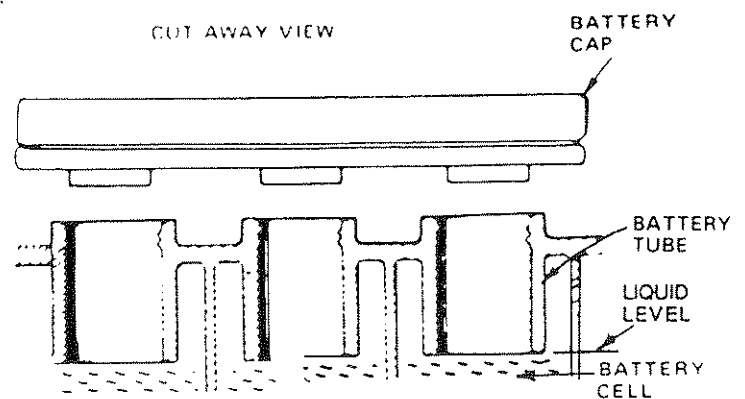

FIGURE 13
- a. Battery acid solution level in each battery cell should be even with bottoms of vent tubes in cells (Fig. 13). Add ONLY distilled or iron free water if necessary. NOTE: DO NOT OVERFILL.